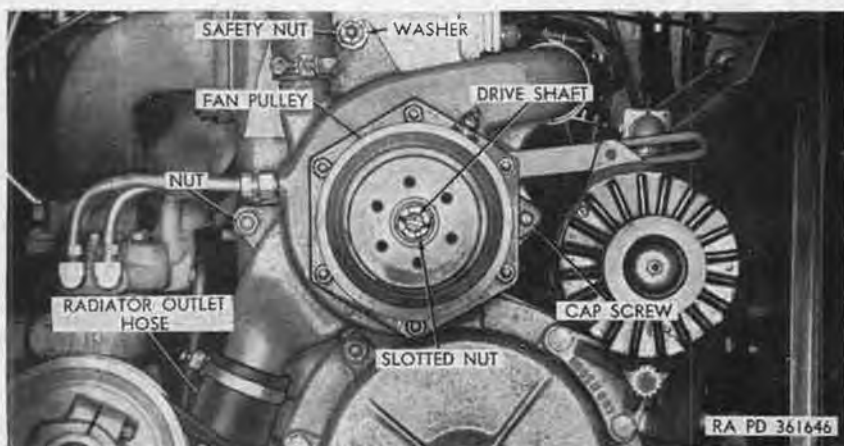

Figure 163. Front view of water pump with fan removed.
c. Water pump. The centrifugal-type water pump (fig. 163), is located at the front of the engine on two studs (one on the crankcase and one on the front cylinder head) and secured by two nuts and one cap screw. The pump is driven by the fan pulley (fig. 164), mounted on the front end of the pump drive shaft, which is connected to the engine crankshaft pulley by a pair of matched drive belts.
- (5) Loosen rear clamp on radiator outlet hose (fig. 163).
- (3) Loosen upper hose clamp on radiator outlet hose (fig. 163).
- (5) Remove nut (fig. 163) and lockwasher securing water pump to stud at right front end of crankcase, and remove cap screw securing water pump to bracket at front left end of crankcase.
- (6) Support water pump and remove safety nut (fig. 163) and washer from stud at front end of front cylinder head. Remove pump from water inlet and outlet hoses and front of engine.
- (1) Position water pump on studs on right front end of crankcase and front end of front cylinder head, install nut (fig. 163) and lockwasher on crankcase stud, install self-locking nut and washer on cylinder head stud, and tighten nuts.
- (2) Install cap screw (fig. 163) to secure pump to left front end of crankcase, and tighten.
- (4) Slide upper end of radiator outlet hose (fig. 163) on water pump inlet, and tighten hose clamp.